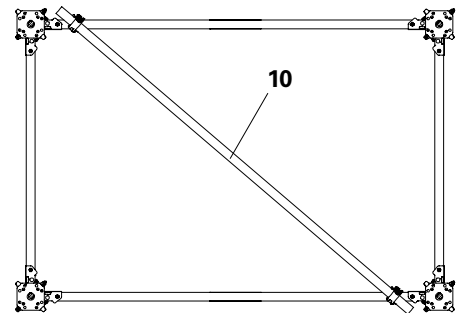

Fig. A3.05
- For towers with heights > 7.0 m, a scaffold tube $\varnothing 48.3 \times 3.2$ is to be attached to the MRK frames as a horizontal brace (**10**) by means of swivel couplings at around half the tower height to safeguard the cross-sectional form. (Fig. A3.05)
1. Brace the tower in the centre with a horizontal brace, see Fig. A3.05.